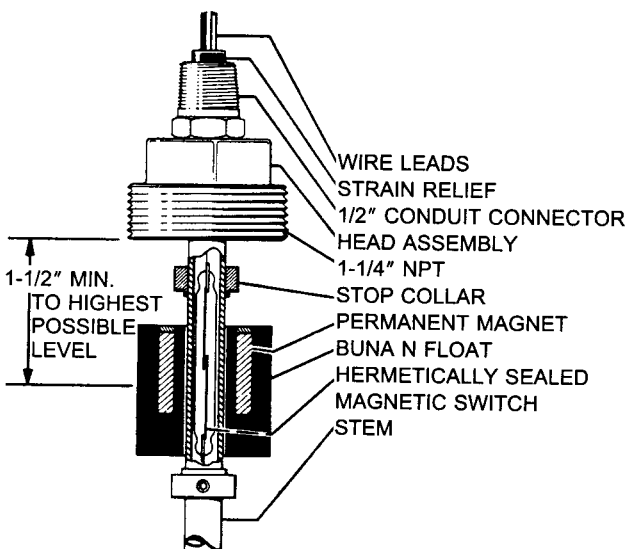

FIG. 7 – EXPLODED VIEW OF MOTOR COOLANT FLOAT SWITCH
4. **Motor Coolant Float Switch** – The motor coolant float switch is mounted in the motor coolant line near the refrigerant pump. It is designed to protect the motor windings and bearings from inadequate cooling and lubrication due to low water level. For this reason, the float and guide rod must be cleaned and the float checked for freedom of movement during maintenance. To clean and check the float, follow the procedure outlined on page 9. Refer to Figure 7.
and pulling the contact assembly out of the float well. See Figure 7.